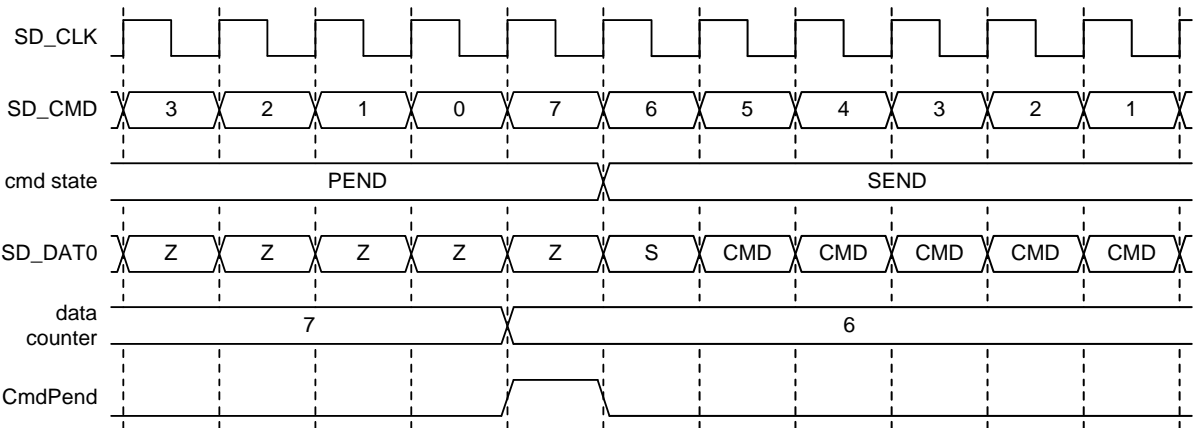

Fig 66. Pending command start
- To start transferring a pending command (see Figure 66). This is used to send the stop command for a stream data transfer.